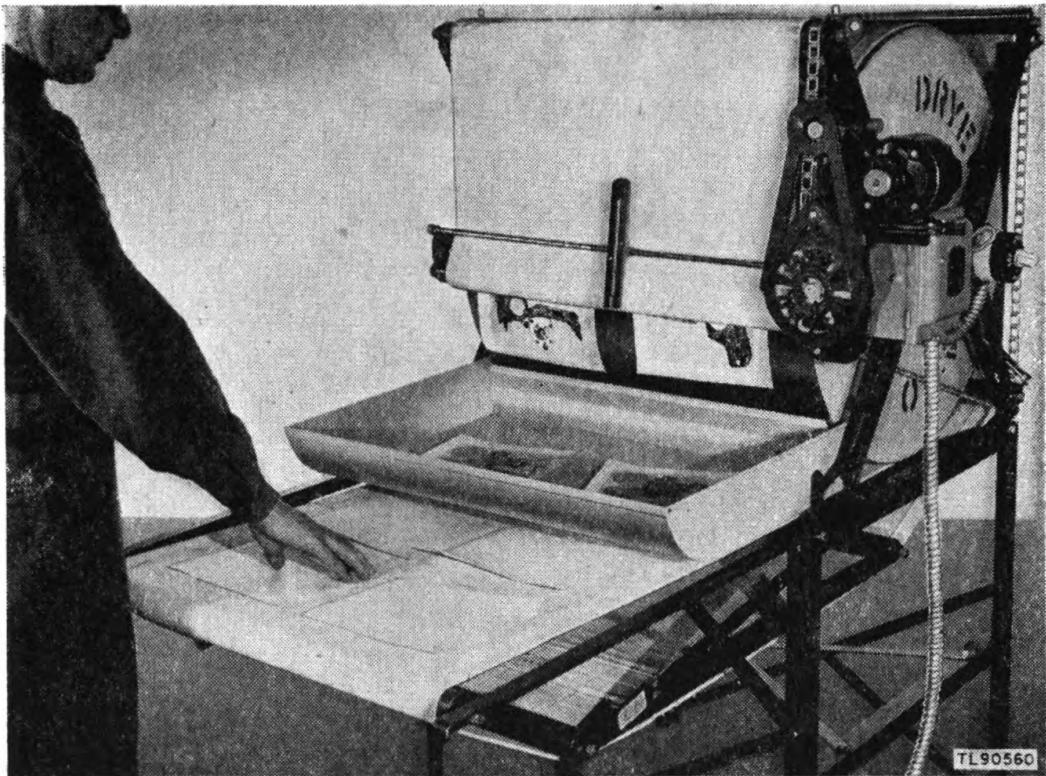

Figure 8. Dryer PH-176 in operation.
f. Feeding Table. The front portion of the apron, which runs over a feeding table roller, forms the feeding table, on which prints are placed to be carried to the drum. The feeding table arms which extend forward from the legs of the base carry the roller (fig. 8).
b. Wash prints sufficiently before drying them. Improperly washed prints contain chemicals which will rot and stain the apron. When prints have been washed and are ready for drying, *drain the surplus water from them*, and place them *face down* on the feeding table portion of the apron (fig. 8). Lay the print on the apron;